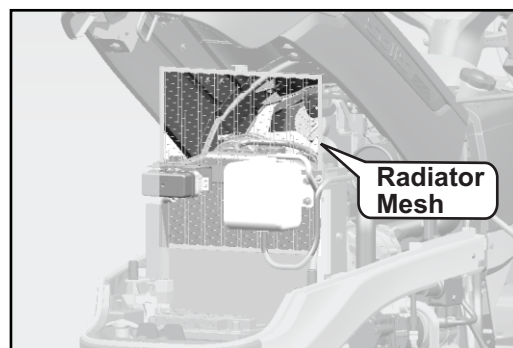

Fig. 5.6d
5.6.4 Radiator Mesh Cleaning (Fig. 5.6d)